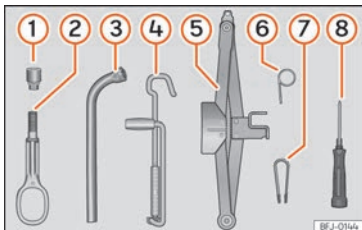

Fig.72 Underneath the floor panel of the luggage compartment: on-board tools.
- Fit the plastic clip (vehicle tools »» » Fig.72 ⑦) over the cap until it clicks into place »» » Fig.73.
- Using the hexagonal socket in the wheel brace »» Fig. 72, unscrew the slackened